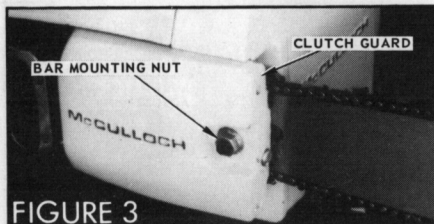

FIGURE 3
1. Loosen the bar mounting nut. See Figure 3.